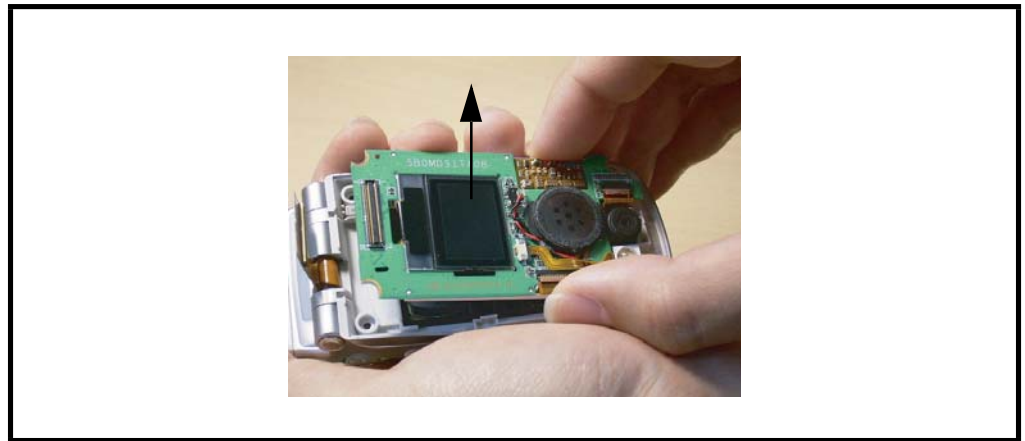

Figure 13. Removing the Upper PCB
3. Lift the upper PCB up and away from the front case as shown in Figure 13.